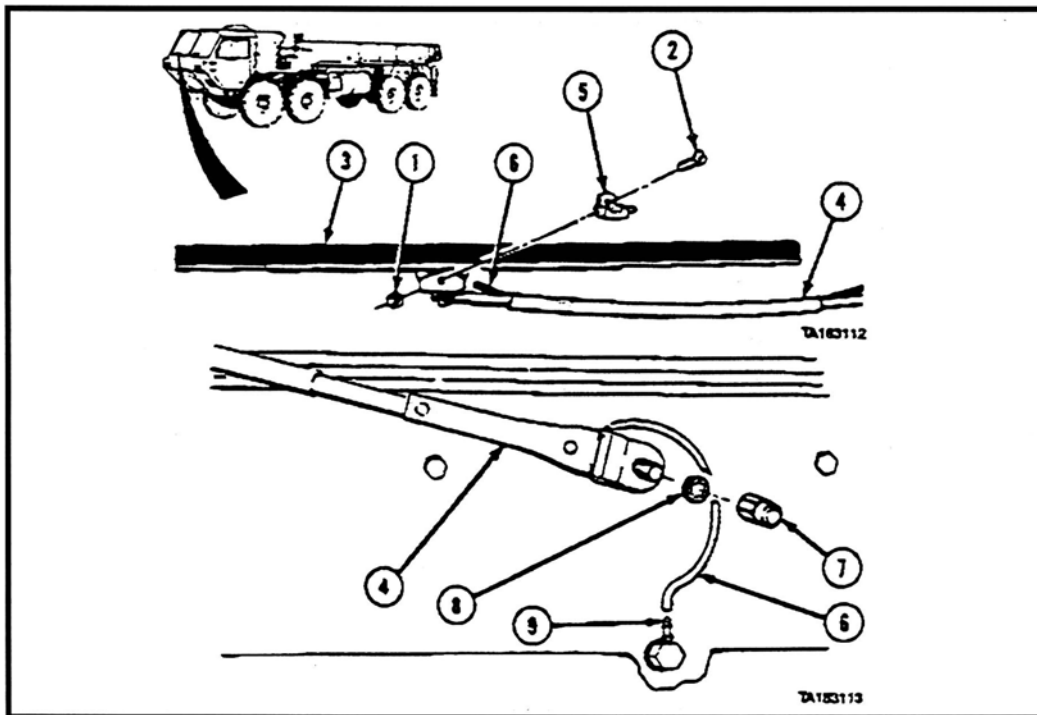

Figure 11. Remove the windshield wiper.
- a. Remove the nut (Item 7 in Figure 11) and lock washer (8) from the driver's-side windshield wiper drive shaft.